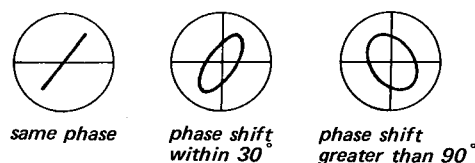

Fig. 30.
1. Playing back the first tone (400 Hz, 0 dB) of SONY alignment tape J-19-F2, confirm that the Lissajous figure on the oscilloscope indicates the same phase as shown in Fig. 30.
1. Recording a 1 kHz signal and playing back the recorded signal, confirm that the Lissajous figure on the oscilloscope indicates the same phase as shown in Fig. 30.